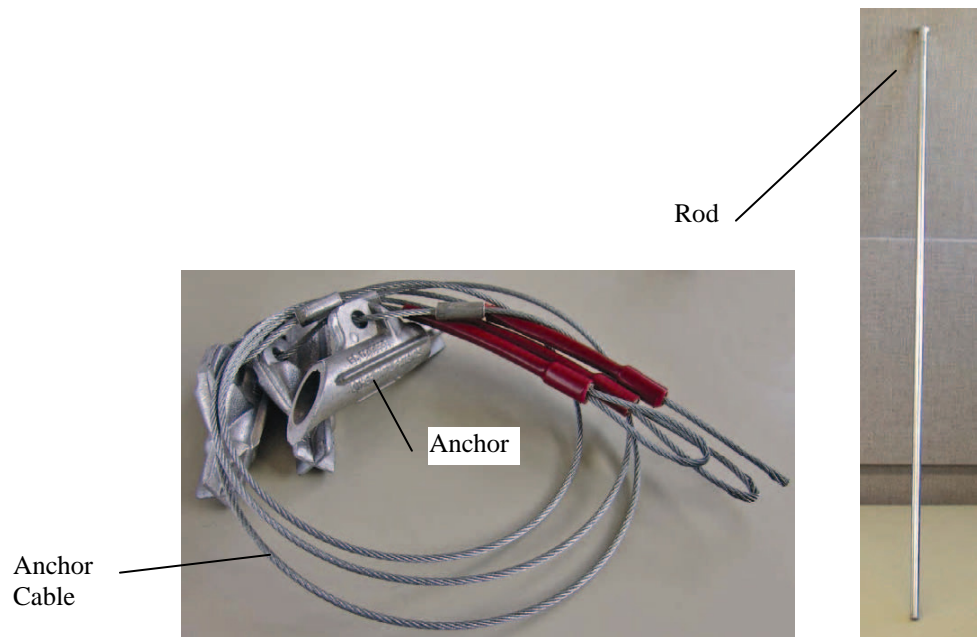
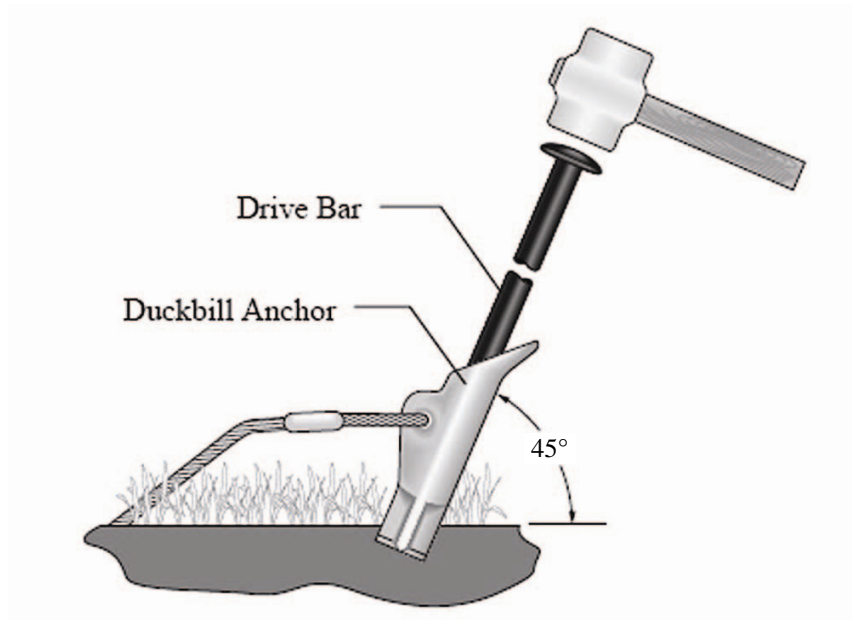

FIGURE 2.4-2. 19282 Duckbill Anchor and Cable Assembly (left).
FIGURE 2.4-3. Anchor Driven into Ground at 45° Angle
Step 2: At 20 ft, install the duckbill anchor with drive rod (see Figure 2.4-2). The anchor needs to be driven into the ground at a 45° angle (see Figure 2.4-3). Drive anchor until the loop or metal ring is several inches above the ground.